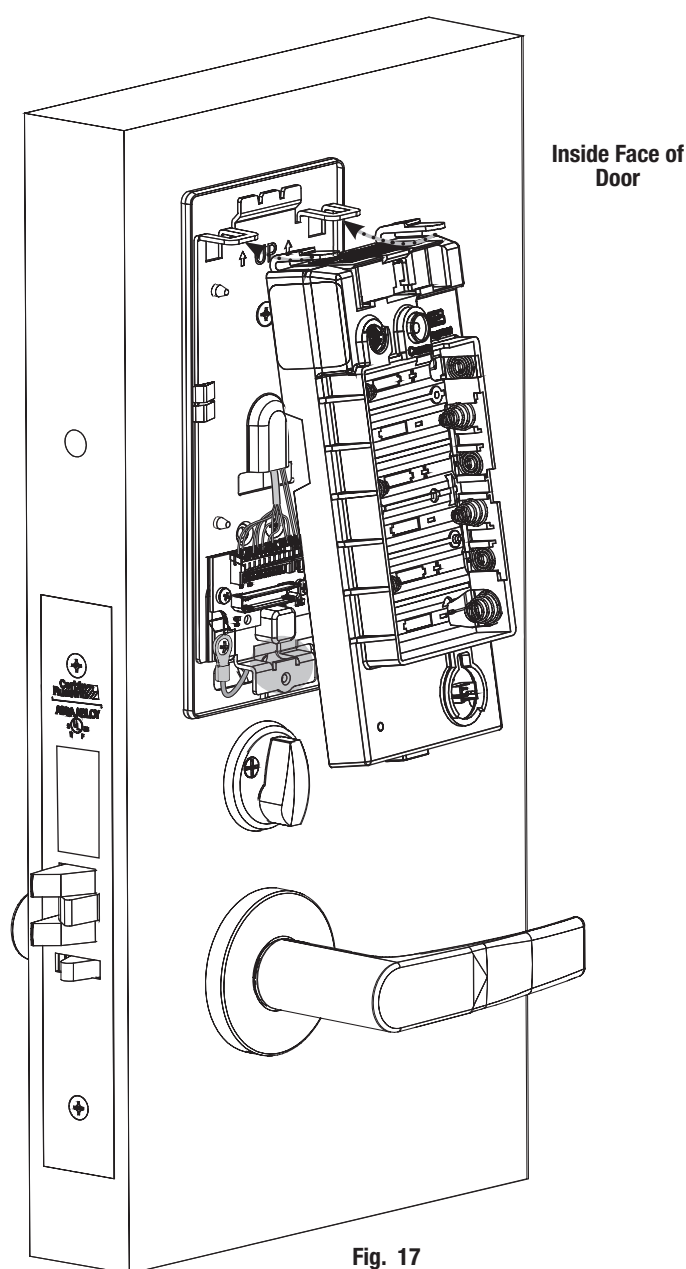

Fig. 17
- Insert top tabs of controller into slots on mounting plate (Fig. 17).